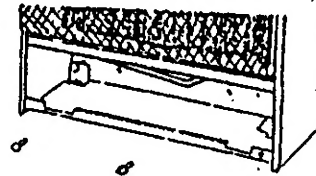

Figure 12-Installing Bottom Mounting Screws
1. Locate two bottom mounting holes. These holes are near bottom on back panel of heater (see Figure 12).